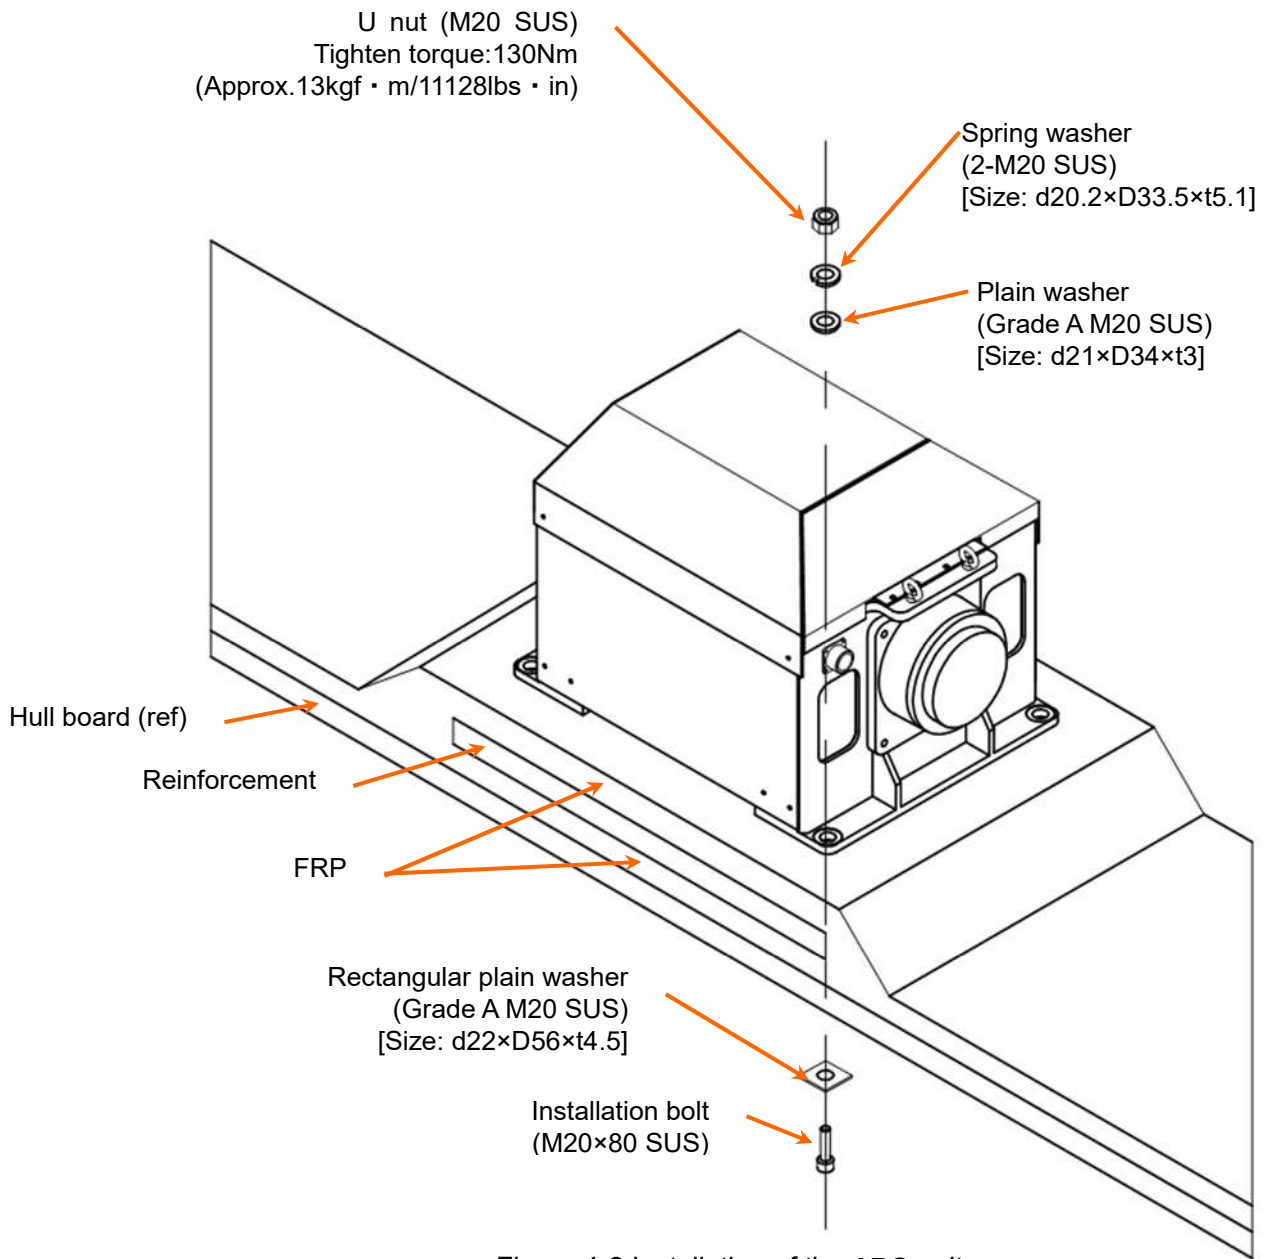
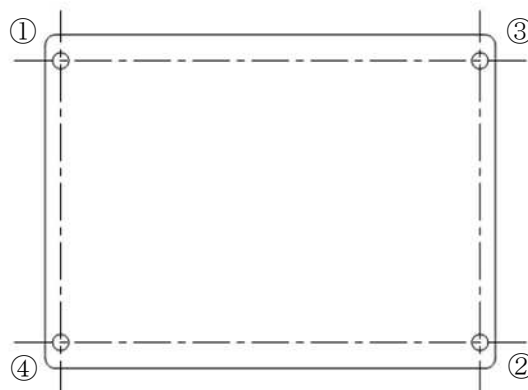

Figure 4-2 Installation of the **ARG** unit
Figure 4-3 Bolts installation order (example)
- ① Sling up the **ARG** unit by its supplied Eyebolt as shown in Figure 4-2, and install the **ARG**.
- ② Install the **ARG** unit firmly on the hull, as shown in Figure 4-2. Fit the plain washer, spring washer and nuts over each hole in the **ARG** unit frame, pass the installation bolt with the rectangular plain washer from underneath the hull board, then fasten the bolt with the washers and nuts that have been placed on the **ARG** unit frame.
- ③ If the ship is made of fiber reinforced plastic (FRP), it recommends reinforcing by overlaying with FRP.
- ④ To prevent each bolt from losing, be sure to use U nut (lock nut) to fasten it.
- ⑤ The installation bolts are 80mm/3.1 inches long.
- ⑥ Tighten the 4 bolts little by little and evenly to a final torque of 130N·m (approximately 13kgf·m / 1128lbs·in) in a diagonal sequence. (Refer to Figure 4-3)
- ⑦ The stainless bolts might be burnt due to the fastening. It is recommended to apply the anti-burning grease, etc. that can be purchased locally, and then tighten the U nut.